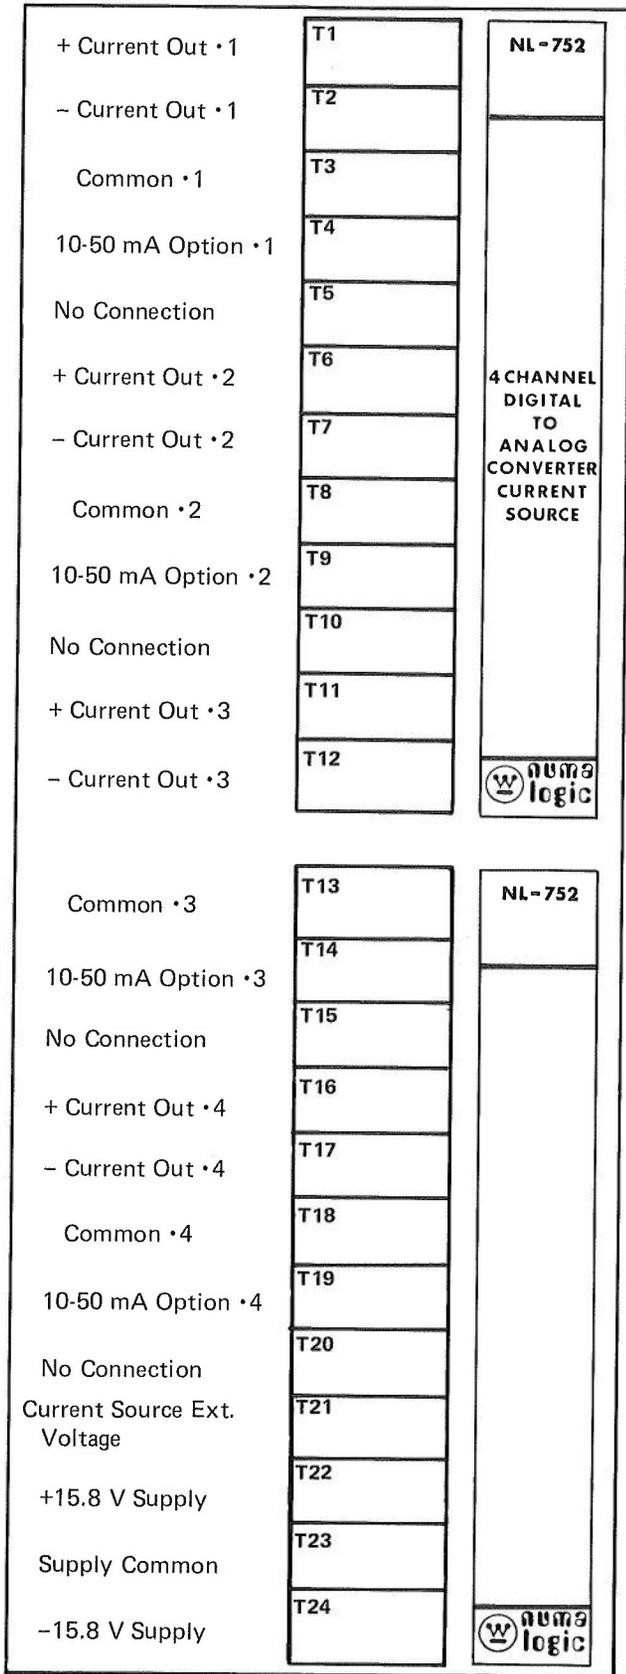
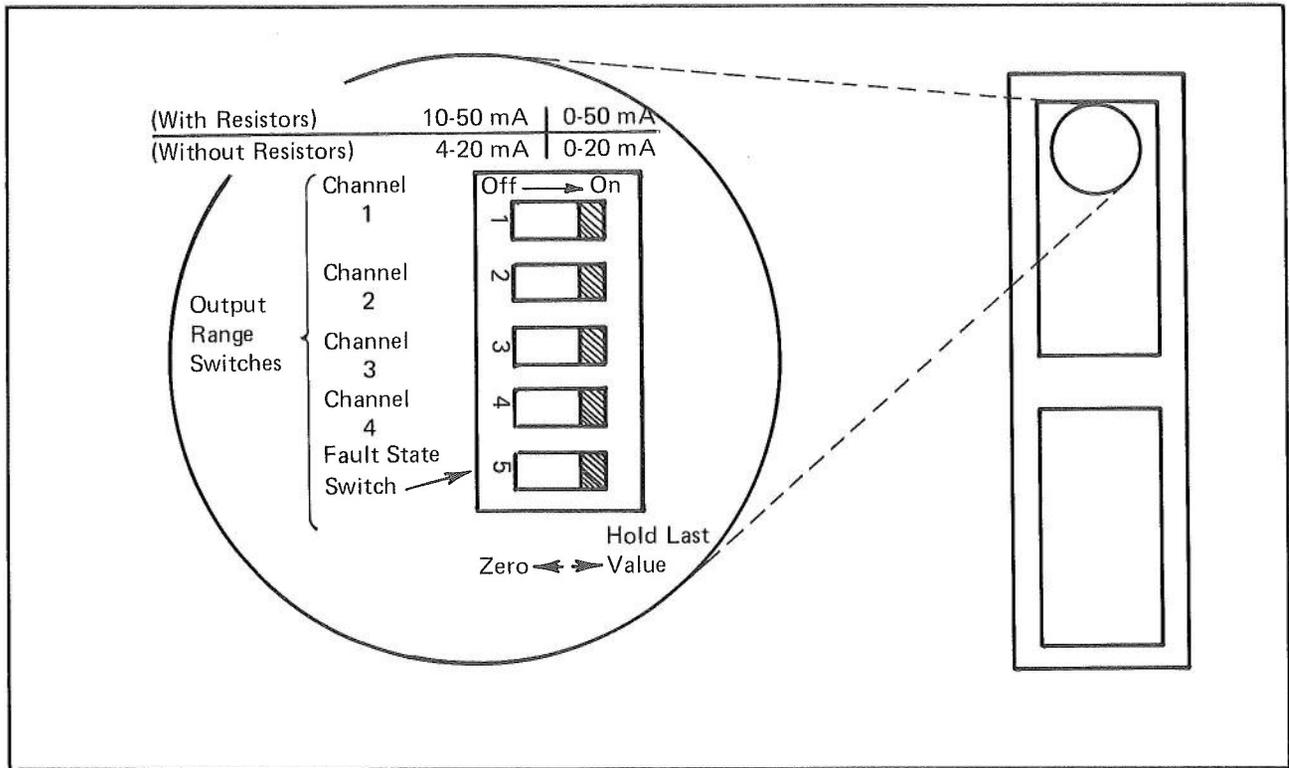
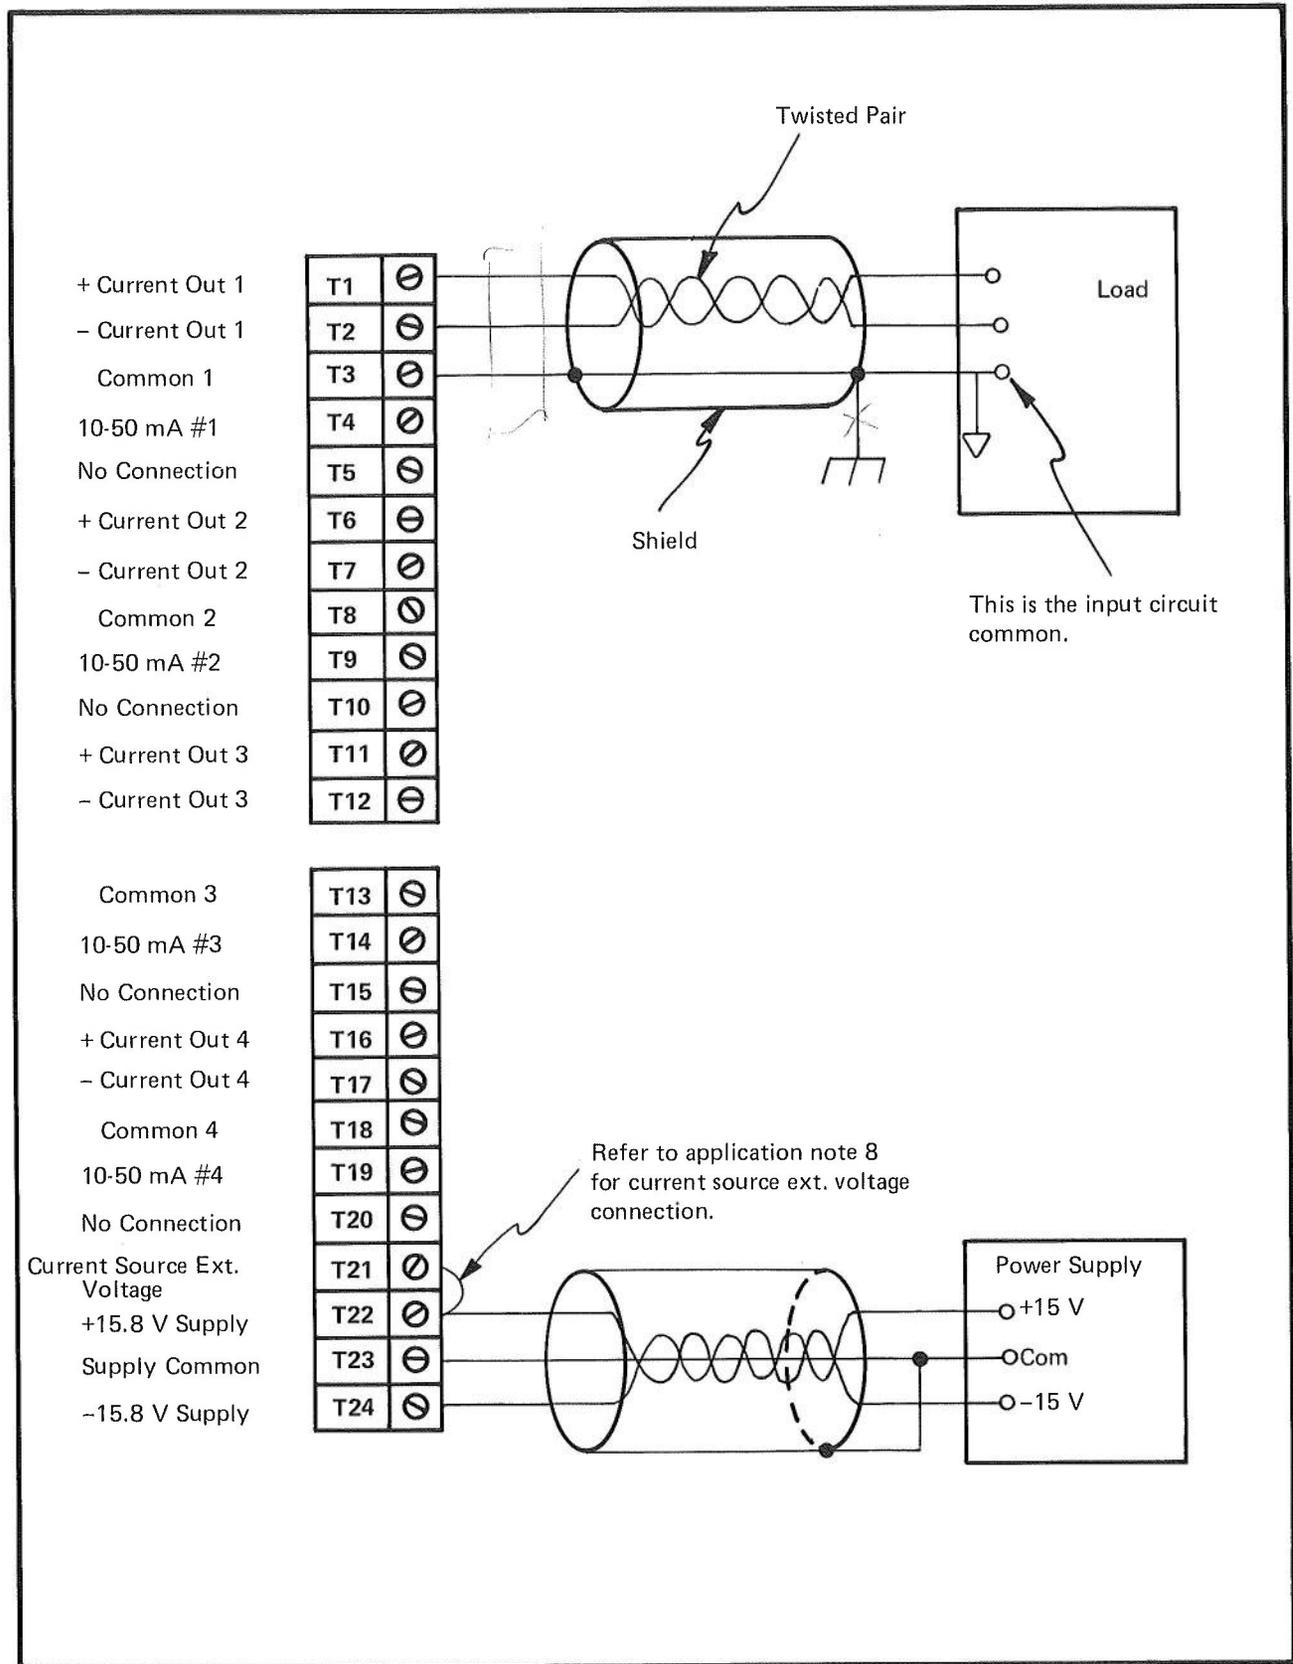

Figure 2 — Terminal Identification
Figure 6 — Current Range Selector Switch
Figure 8. Suggested Shield Wiring (Load Common Connected to Earth)
Also supplied with the Module are Terminal Identification Strips, which are to be filled in with wire numbers and applied to the I/O Rack next to the terminals. (See Figure 2.)
Each channel of the Module may be set up to yield one of four current ranges. For each range, the magnitude of the output current is determined by output register bits 0-10 (lower ten bits). Ranges are selected by setting selector switches on the Module and wiring external resistors into the terminal block on the I/O Rack (Figure 2). Remove the top Module Lens to set the Current Range Selector Switches (Figure 6).
**Step 2** — Connect the multimeter across the correct + and - output terminals (Figure 2).
Figures 8 through 11 show wiring connections to the NL-752-H Module. Normally, shielding is tied to ground at the cable end away from the Module as shown in Figure 8. If this is not possible, use the alternate wiring schemes in Figures 9, 10, and 11. Module terminals are shown in Figure 2.
**Physical Placement** — Connect all field wiring to the Vertical I/O Rack's terminals. Follow the typical connection diagrams in Figures 8 through 11. Installing the Module is a simple process: slide it into 2 of 4 Positions on an I/O Rack. To do so, follow these steps:
**Physical Placement** — Connect all field wiring to the Horizontal I/O Rack's terminals. Follow the typical connection diagrams in Figures 8 through 11. Installing the Module is a simple process: slide it into one of the four or eight Positions on an I/O Rack. To do so, follow these steps:
4. The output of each channel of the Module depends on the value it receives from its assigned output register (OR). If the Processor loses its AC power, the value present in the OR is saved. However, if the external supply for the Module is wired to the same AC source as the Processor, Module output will go to zero. If the external supply is on a separate AC supply (different from the Processor supply), the Module's Fault State Switch settings (Figure 6) determine the output state: the Module will maintain its outputs at the value present when the Processor loses power if the switch is set to ON; the outputs will go to zero if the switch is OFF. The last state/zero state settings also apply in the event of a Processor fault.